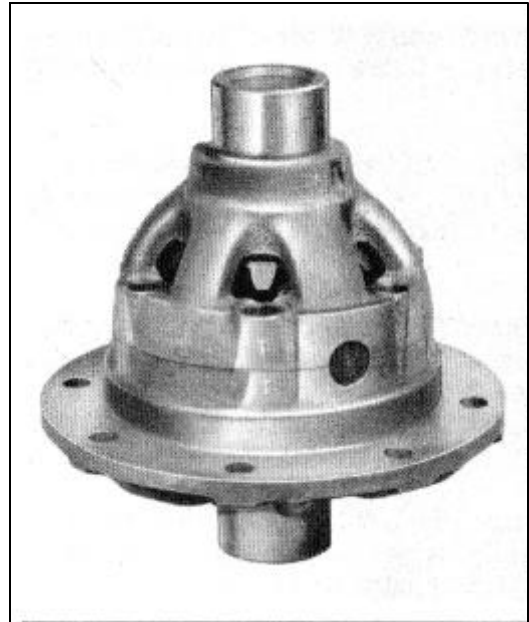

FIGURE 28
4. Replace bolts and lockwashers that hold right and left hand case together, being sure that the machining marks are in alignment as shown in Figure 28, and tighten securely.